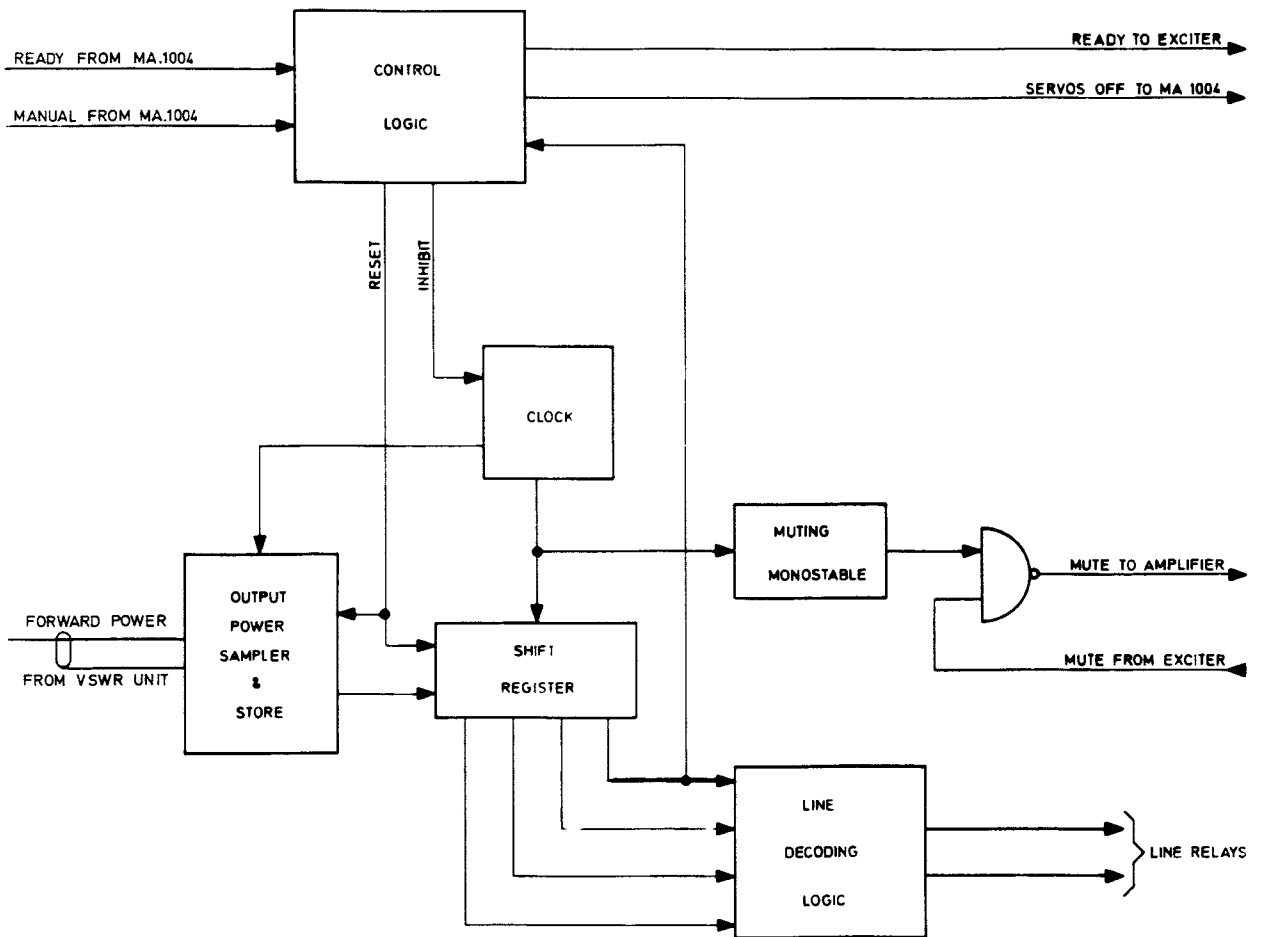

Fig.1 Line switching unit MS.139 : block diagram
4. The line switching unit MS.139 contains the following stages (fig. 1):-